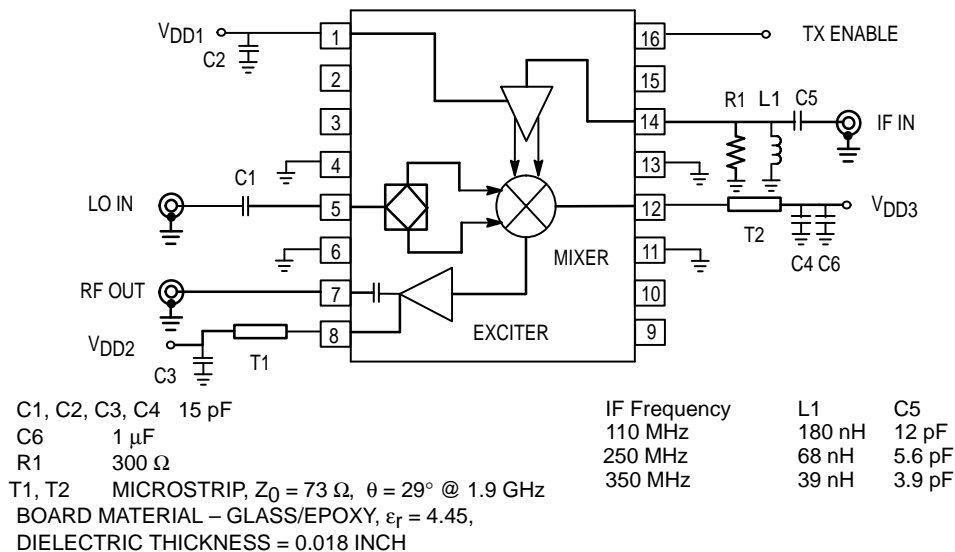

Figure 1. Applications Circuit Configuration
(1) Includes T1 shown in Figure 1.
Figure 1 shows the application circuit used to gather the data presented in the characterization curves. As shown in Table 1, the IF port impedance is very high. Three hundred ohms was chosen for R1 to shunt the IF port as a compromise of gain and bandwidth. A 50 Ω resistor can be used and L1 and C5 eliminated to provide a broadband match. The
As with all RF devices, circuit layout is important. Controlled impedance lines should be used for all RF and IF interconnects. As shown in Figure 1, power supply bypassing should be used to avoid device instability. Ground vias should be included near all ground connections indicated in the schematic. Off-chip components should be mounted as close to the IC leads as possible.